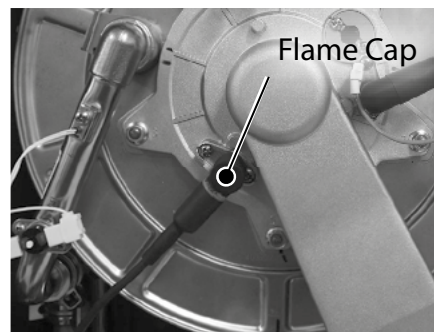

Figure 1 - Remove flame sensor cap
- 5** Locate the flame sensor on the burner assembly as shown in Figure 1. Remove the cap from the flame sensor. **DO NOT** pull on wires.